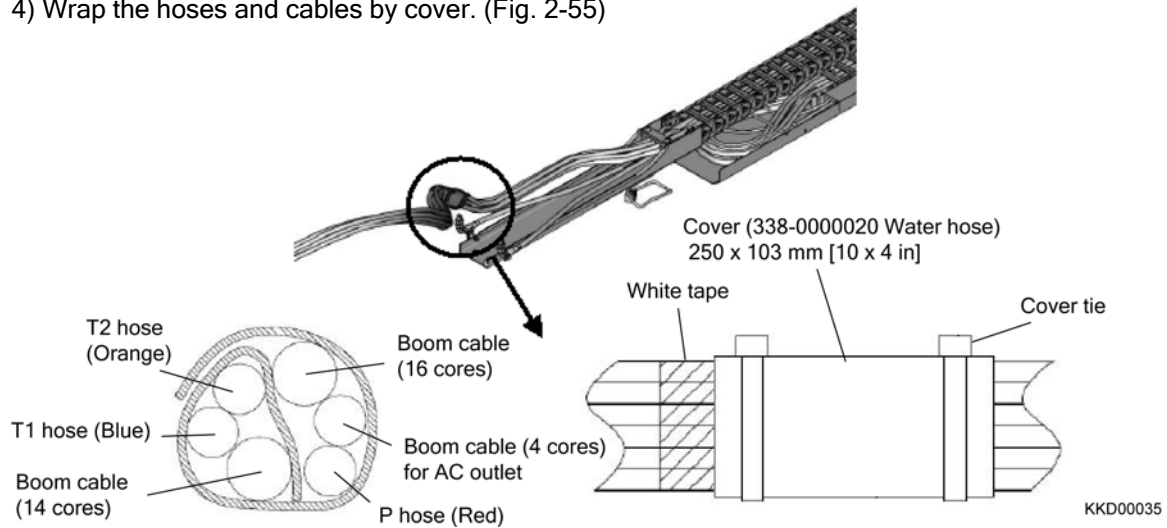

Fig. 2-55
4) Wrap the hoses and cables by cover. (Fig. 2-55)